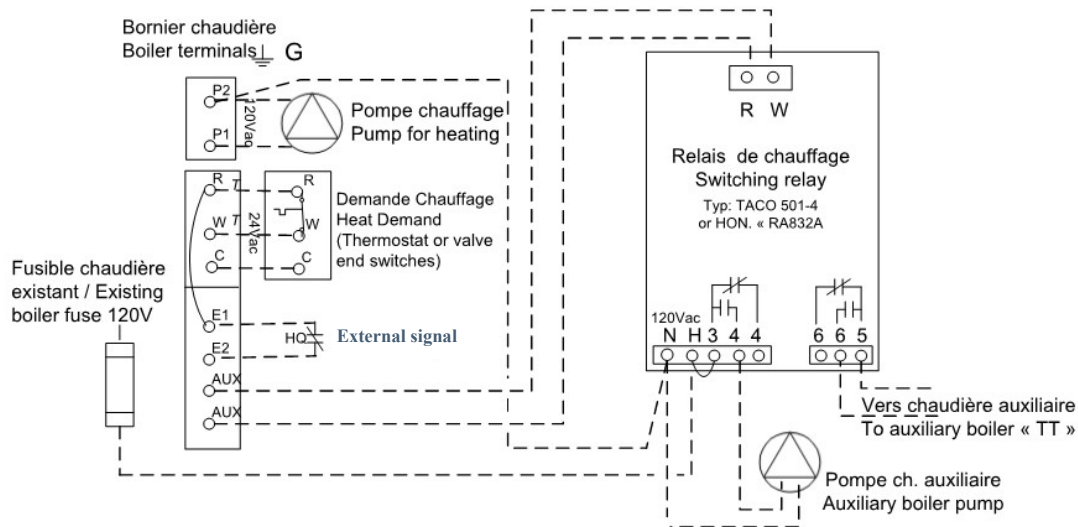

Figure 10: Wiring diagram with auxiliary energy source
- Install a 2 wire 18ga cable between the contact (NC contact to allow the operation in electricity) of the external device making the selection of the operating mode and terminals **E₁** **E₂** (see fig.10)
- Install a pump relay (such as Honeywell RA832 or TACO SR501-4) near the renewable energy source to authorize the *AltSource* control the start up your renewable energy source. (see fig.10)
- Connect the electric terminal of the renewable energy on the “XX” relay RA832 terminals or 6-5 of the relay TACO 501-4 (see fig.10)